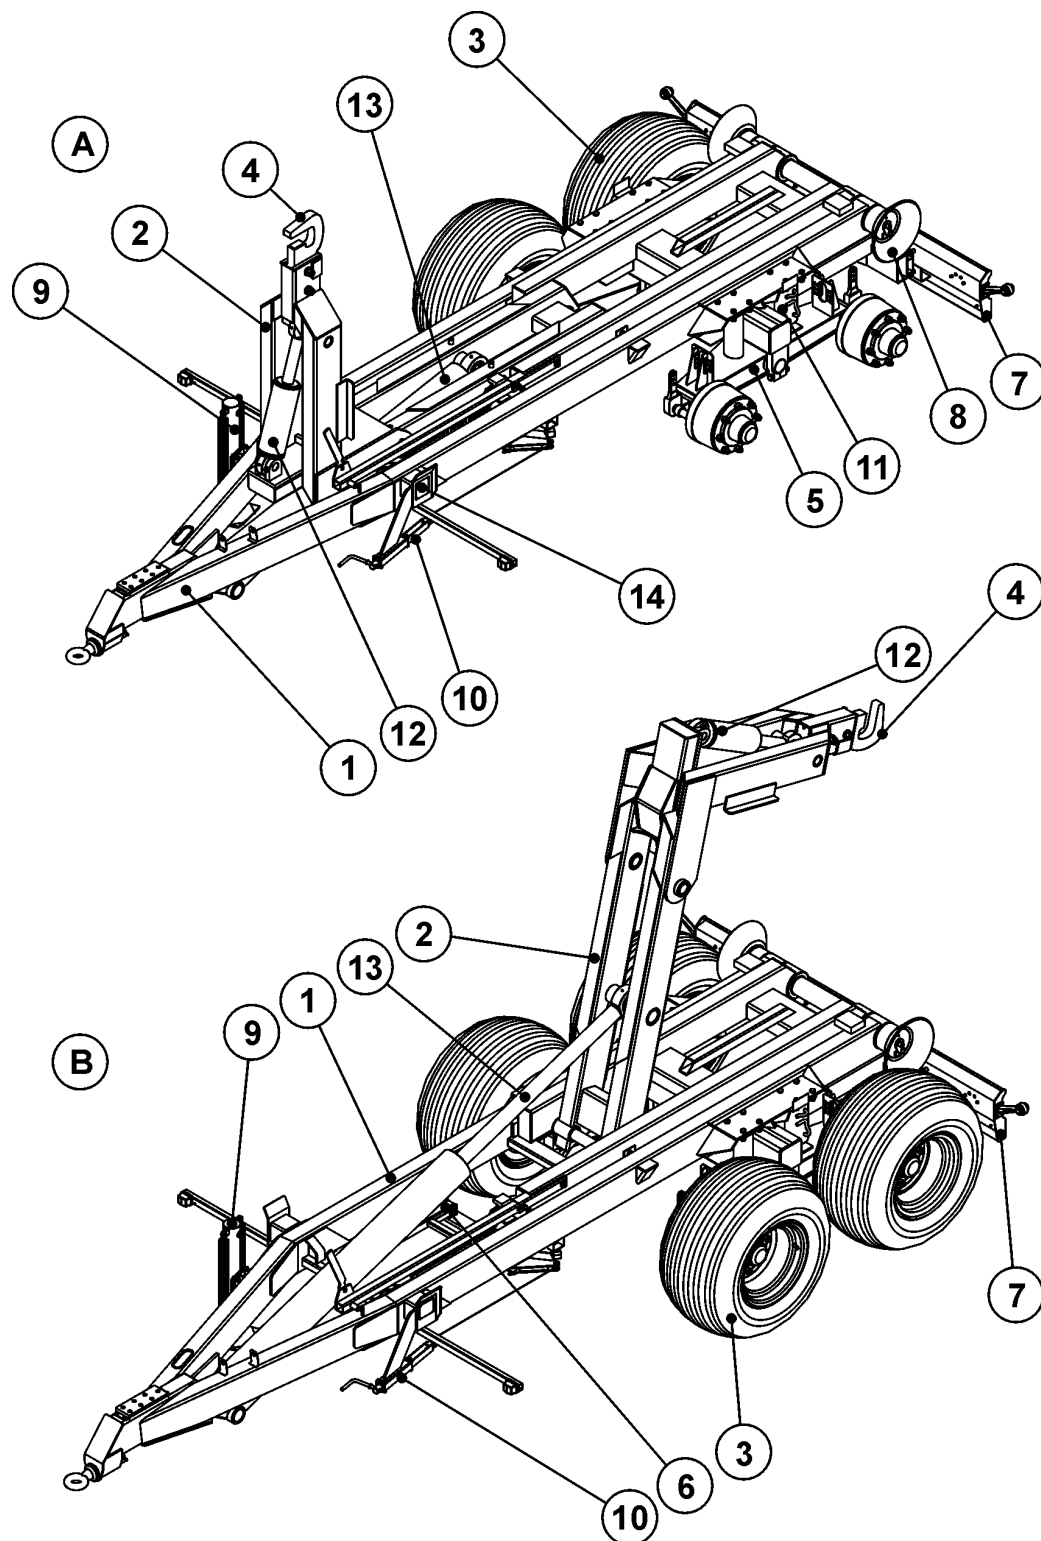

FIG. 6. TRAILER T185.
Trailer's undercarriage consists of parts shown on the Fig. 6: lower frame (1), tilt frame (2), rockers with wheels (3), (5). The lower frame is a welded structure made of steel profiles. Main carrying elements are two stringers connected each to other with cross-bars. In the front part of the frame on the profil of the draught bar installed is the hydraulic support (9). On the support beam mounted is the support of the container. In the rear part of the frame installed is the tandem-type drive system (3), (5), hydraulic system for rocker lock (11), guide rollers (8) and elements of the lighting system (7). On the lower frame (1) installed is the tilt frame fitted with a hook and two hydraulic cylinders for tilt and unloading of the container.